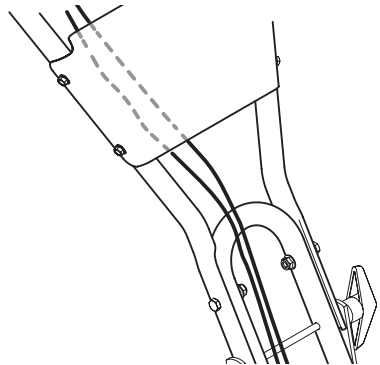

Figure 5
- Carefully unwrap the cable(s) from the shipping position. To attach the clutch cable(s), feed the cable(s) up the front of the lower right handle and behind the handle panel. See Figure 5.